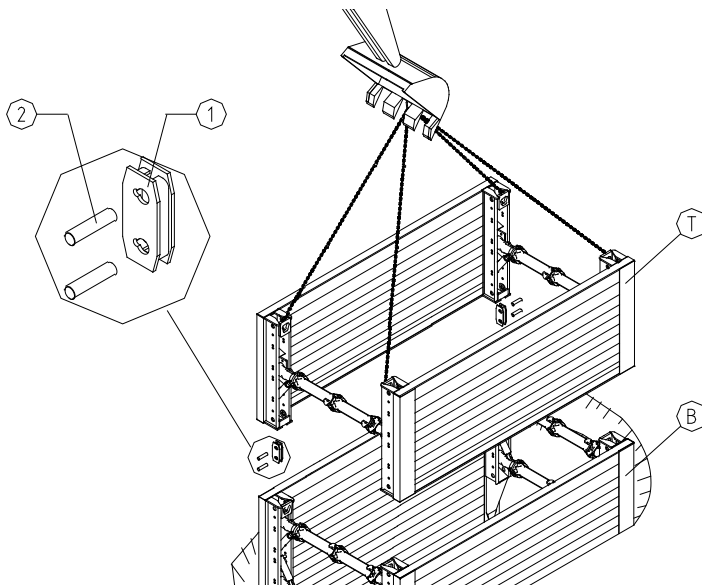

Figure 5: Fitting the top panel
Depending on the required trench depth, top modules (T) are mounted on the base modules (B) (Figure 5). The base and top modules are connected with connectors (1) and bolts (2). Here again, pressure panels and/or pressure beams must be used for the ongoing lowering process.